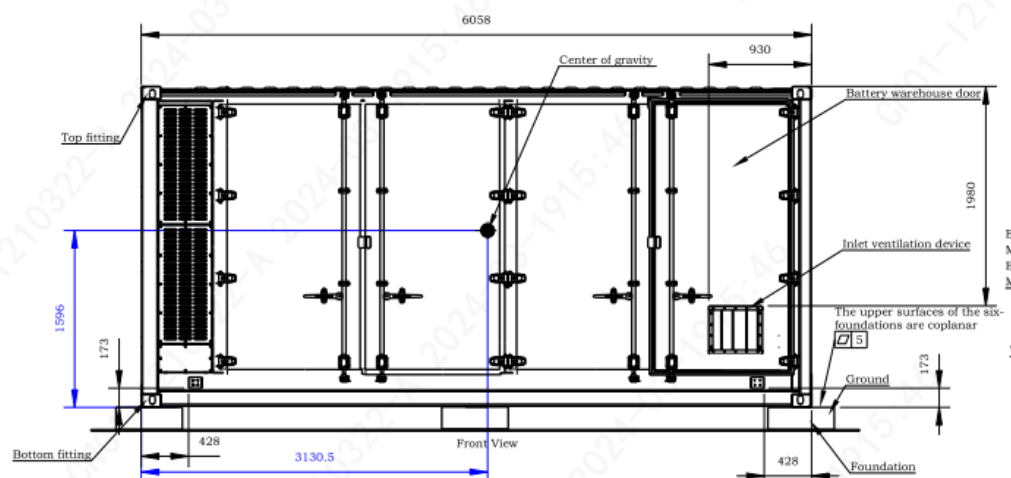

Figure 5-4 Spacing of the bottom foundation points of a container
- Refer to Figure 5-4 for the spacing of the bottom foundation points of a container.